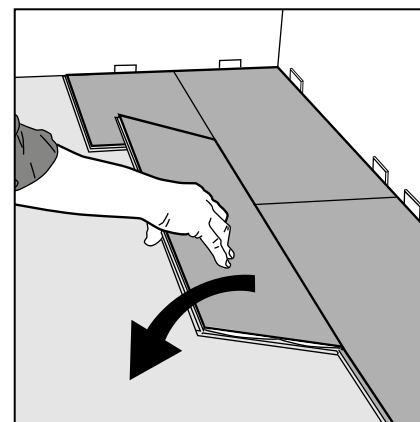

Figure 17 Second plank, second row
- > Gently place the panel close to the short end of the previous one (Fig 17) and fold it down in a single action movement ensuring the corner of the long and short sides connect into the corresponding profiles of the short edge of the first panel second row, and the long edge lower profile of the corresponding panel in the previous row respectively.